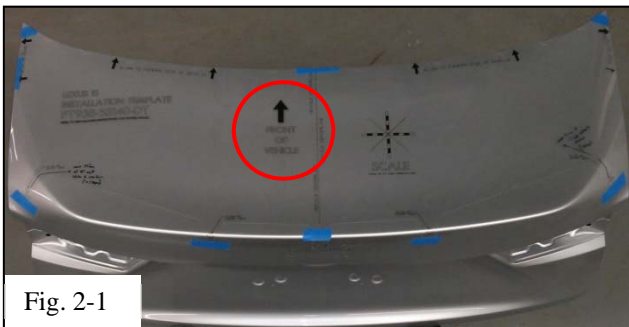

Fig. 2-1
- (a) Place the installation template (PT938-53140-DT) onto the trunk lid surface with the FRONT arrow pointing toward the front of the vehicle (Fig 2-1).